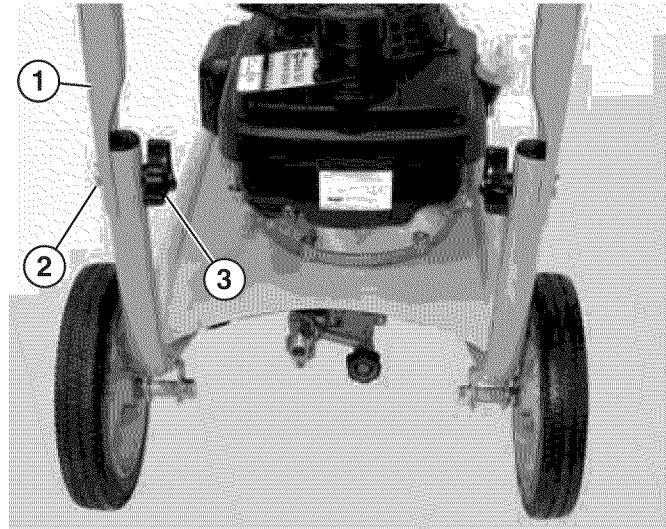

Figure 9 – Installing Upper Handle
8. Install the upper handle to the frame using the handle bolts and knobs (see Figure 9).